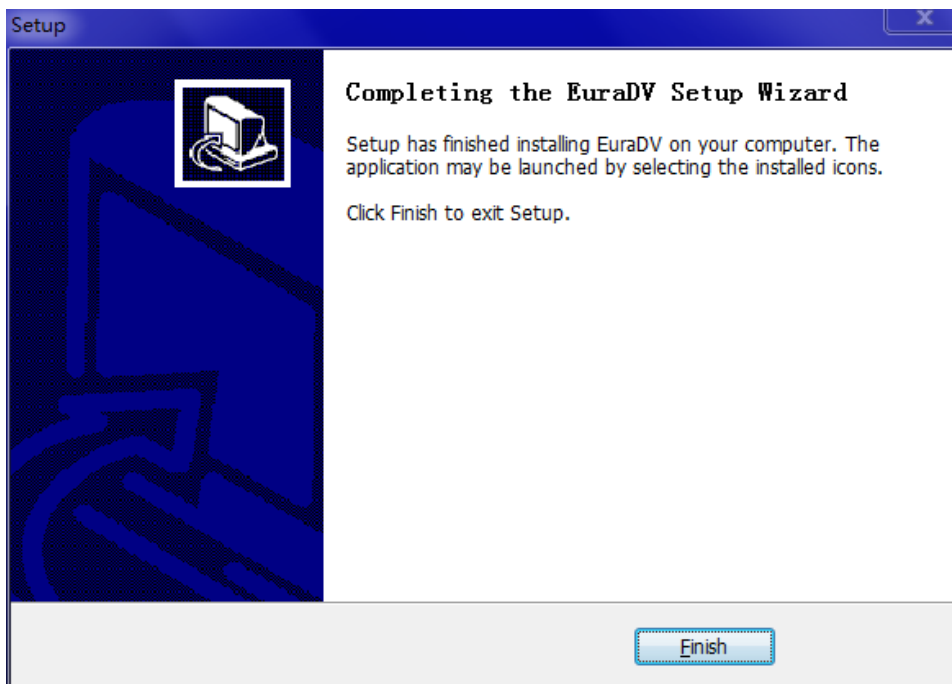

Fig 2-7 Installation Completed
- Click “Install” to start installation. Click “Finish”, see fig 2-7.